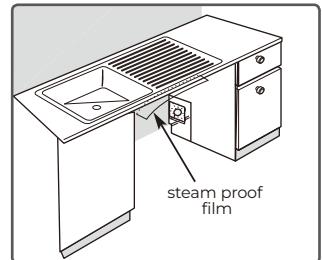

Fig. 5
- In order to prevent the steam generated when the machine opens the door from damaging the cabinet, you need to paste the steam proof film provided by the manufacturer on the top of the cabinet, as shown in the Fig. 5.